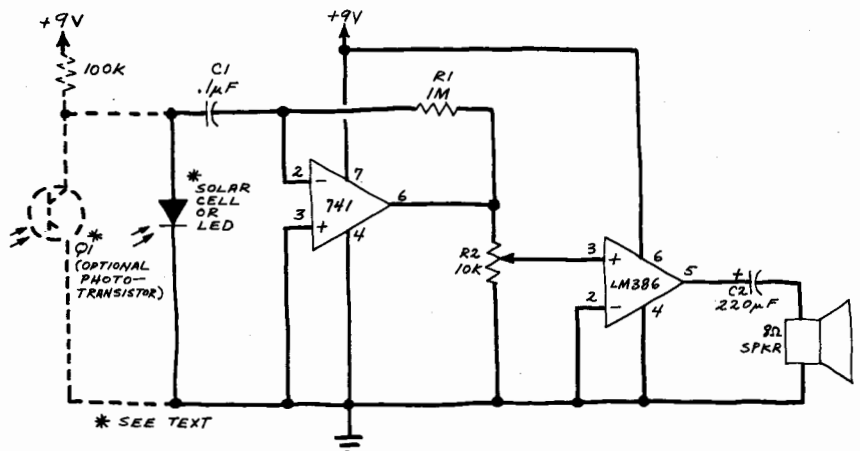

Fig. 2. A light-wave receiver to go with the transmitter.
**The Receiver.** The light-wave receiver, which is shown in Fig. 2, consists of a 741 operated as a preamplifier and an LM386